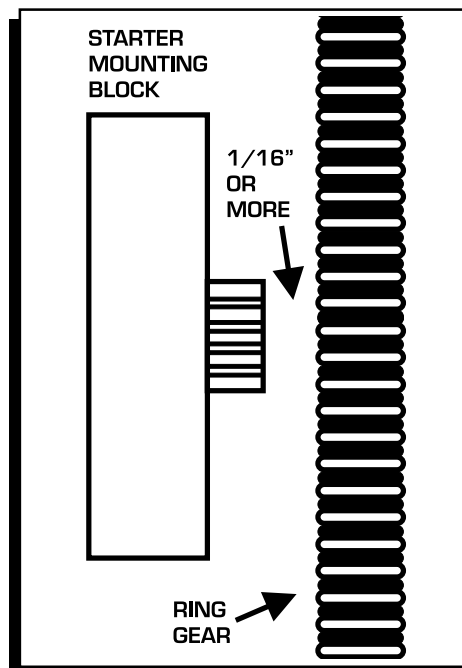

Figure 2 Checking Pinion Clearance.
4. With the starter installed, check the clearance between the ring gear and the edge of the pinion gear (Figure 2). There should be at least 1/16". It is recommended to check this clearance in at least three places around the flex plate.